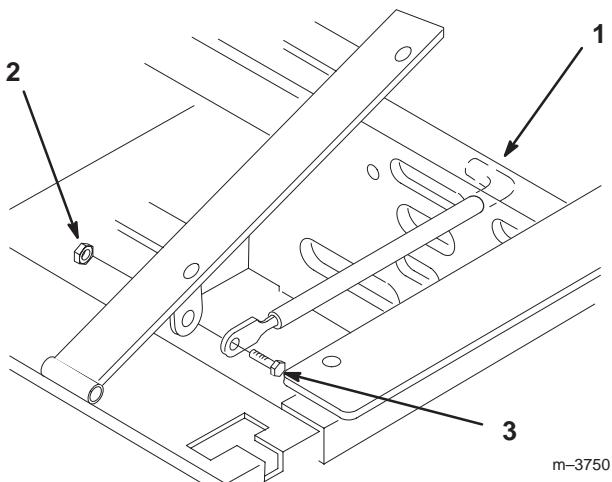

Figure 3
1. Tilt seat up. Remove 5/16" (8mm) locknut from bolt attaching seat retaining rod to seat frame (Fig. 3).
2. Remove retaining rod from seat and insert the "L" shaped end of the rod into the hole directly above the left-side hydraulic pump (Fig. 3).
3. Place the seat retaining rod to the outside of the mounting tab of the seat frame and secure with 5/16-18 x 1" (26 mm) bolt and 5/16" (8mm) locknut (Fig. 3).